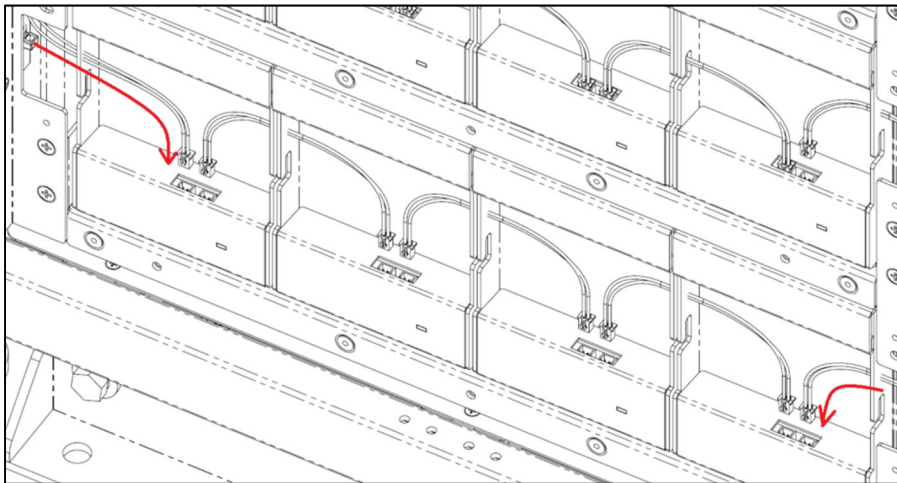
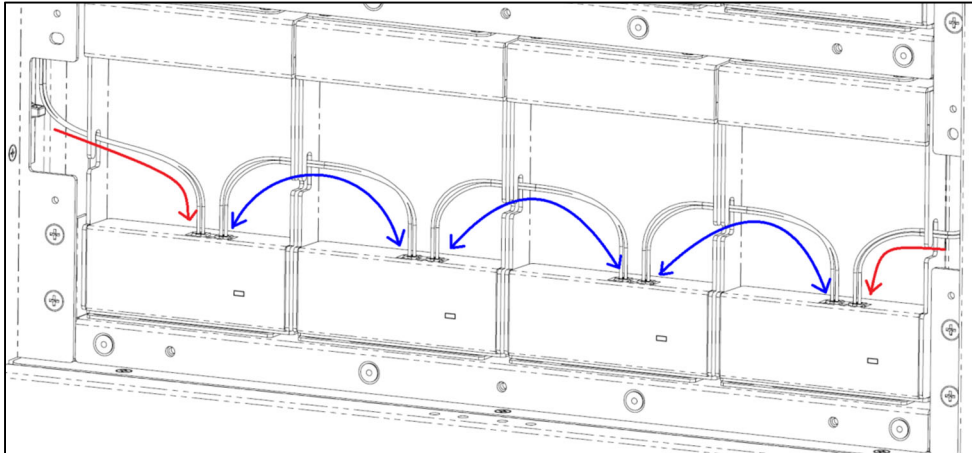

Figure 16: connect the two cables from the sides
Figure 17: connect the battery modules to each other
- (5) Connect the two cables from the sides of the cabinet into the battery modules. See **Figure 16**. Also, connect the three cables from each battery modules into another one. See **Figure 17**.